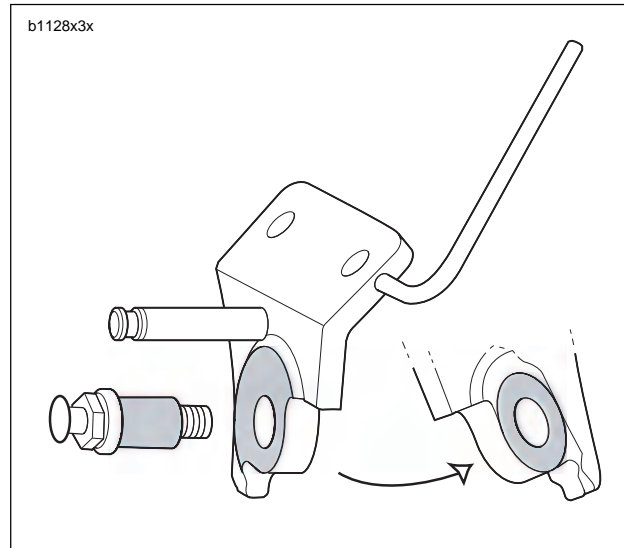

Figure 2-132. Lubricating Points (Shaded Areas)
1. Install sidestand leg (1).
- a. See Figure 2-132. Lubricate sidestand pivot bolt (5) and mating portions on sidestand bracket (2) with WHEEL BEARING GREASE (Part No. 99855-89) as shown in Figure 2-132.